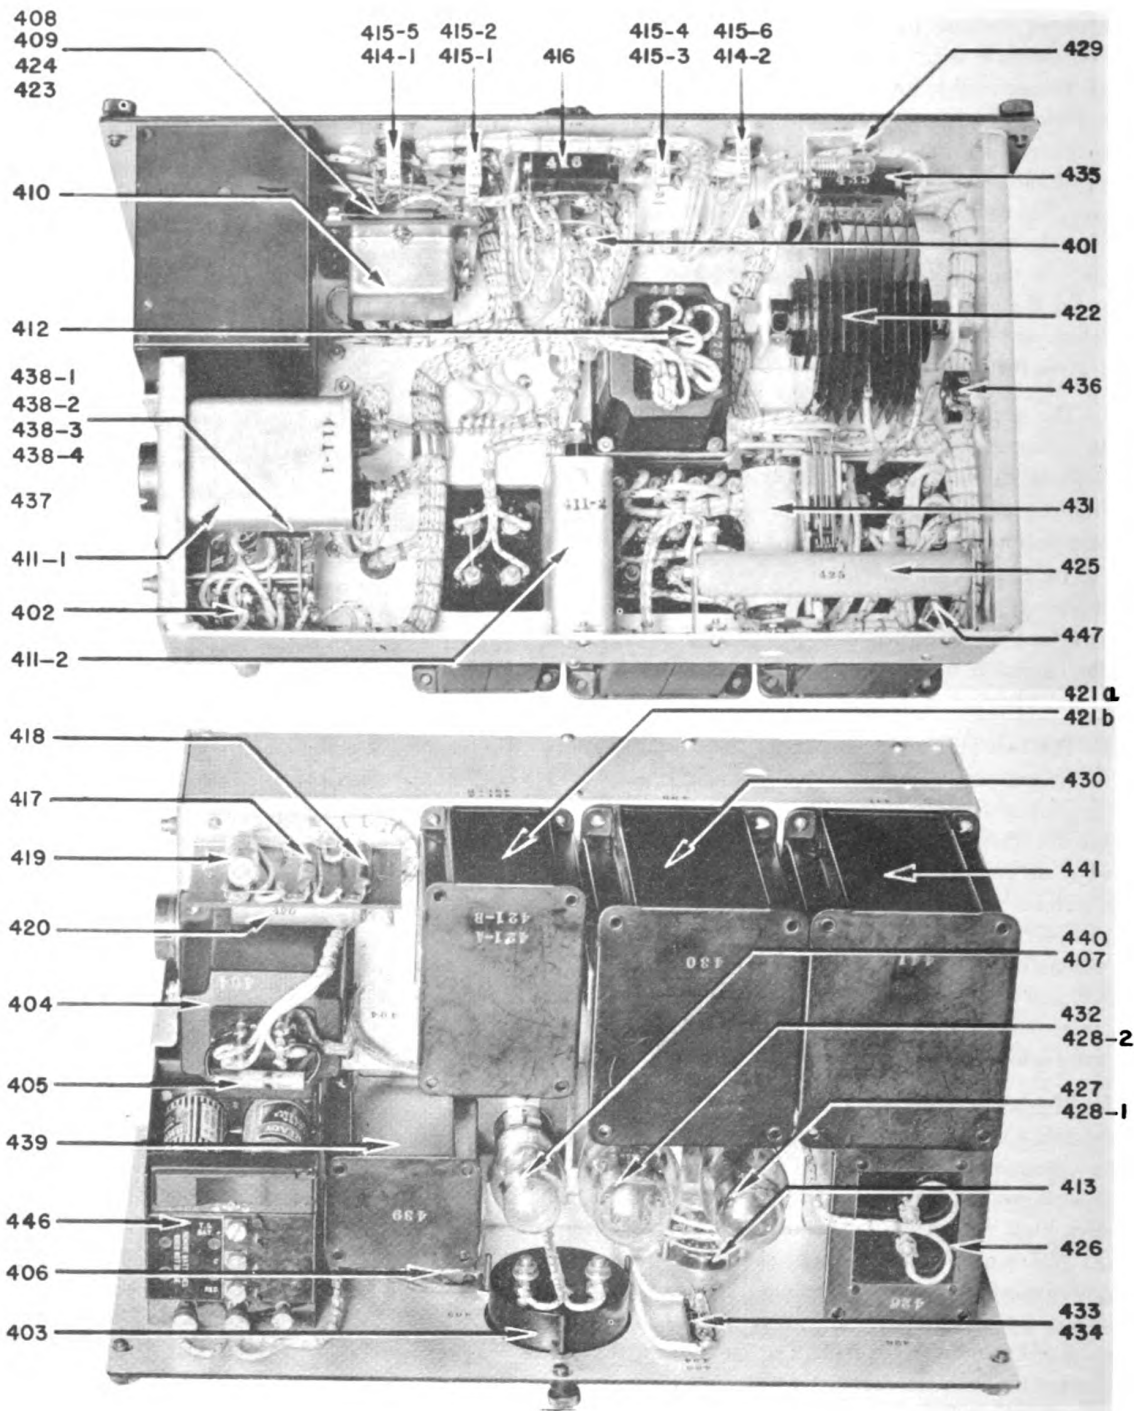

FIG. 17 CONTROL UNIT RM-7-B, VIEWS OF CHASSIS REMOVED FROM CABINET
9. CONTROL UNIT RM-7-B (see Figs. 17 and 49)